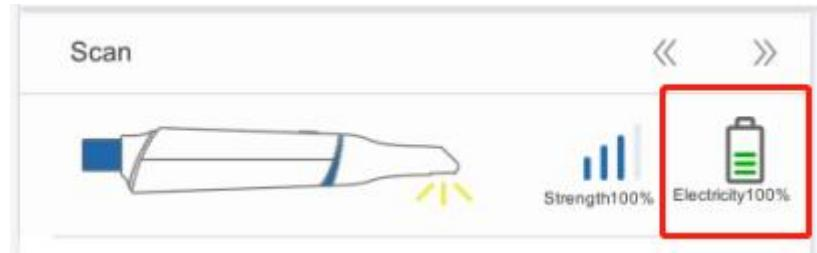

Fig 1-12 Battery level indicator function in the scanning software
②Also after connecting to a notebook , login the scanning software and view the battery level indicator function in the scanning software. The battery level displayed in the function is the battery level of the camera, as shown in the Fig 1-12.